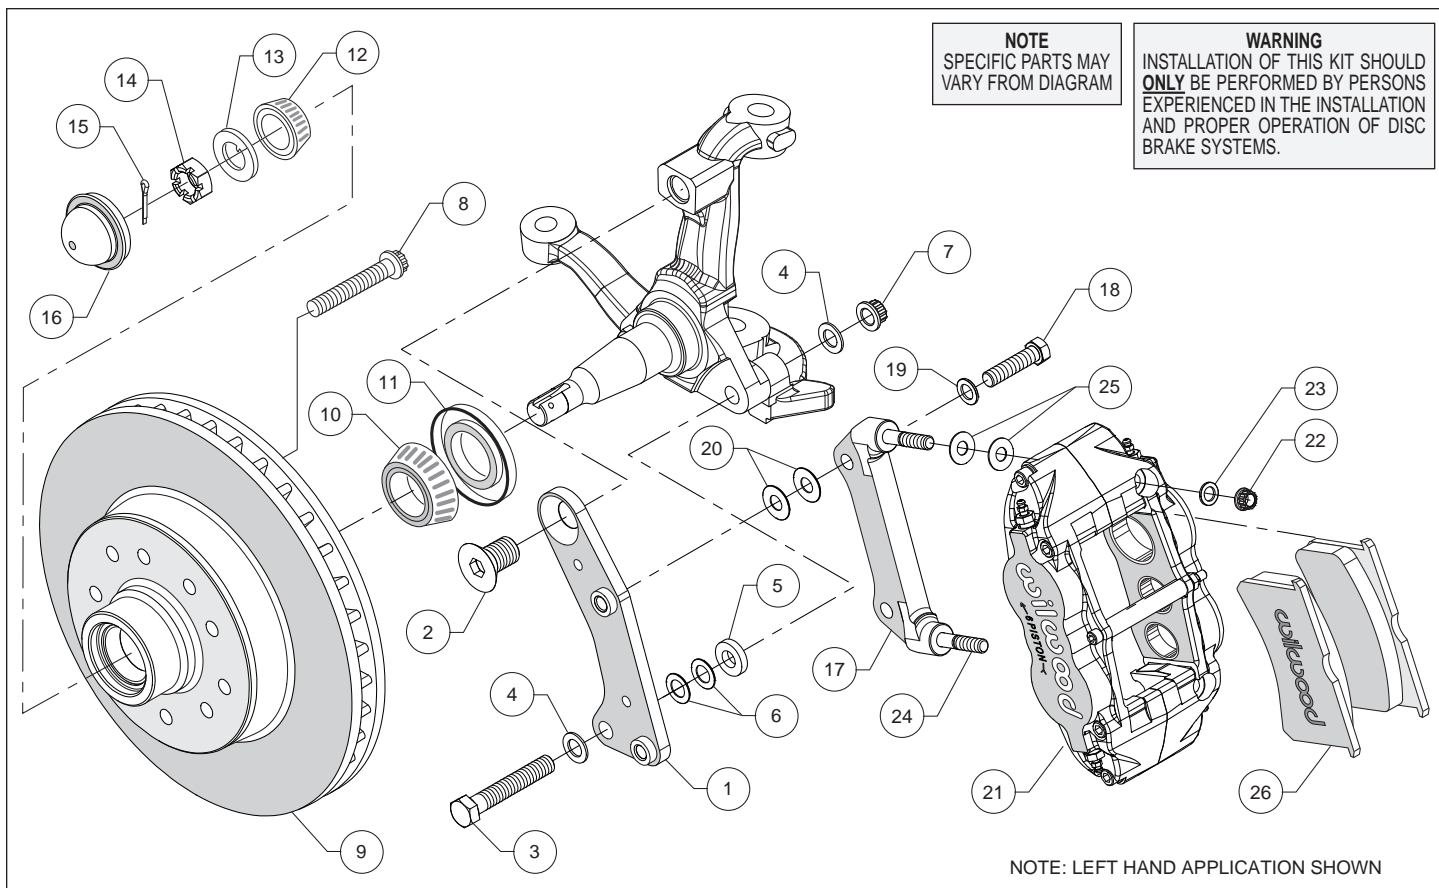
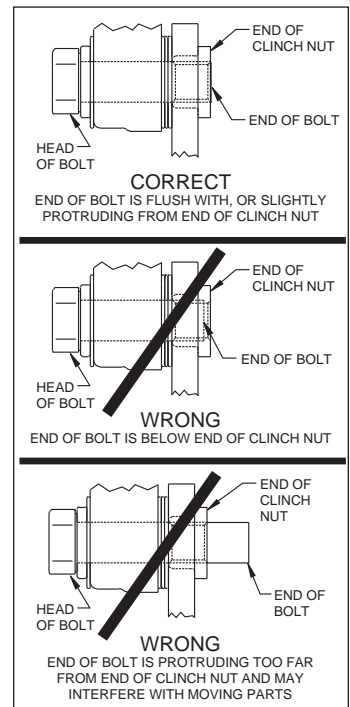

Figure 1. Typical Installation Configuration
Figure 3. Clinch Nut Engagement Diagram
Assembly Instructions (numbers in parenthesis refer to the parts list and Figure 1 on the preceding pages): **CAUTION:** All mounting bolts must fully engage clinch nuts. Be sure to check that all bolts are either flush or protruding through flanged side of clinch nut after shimming, Figure 3.
- The flat bracket (1) should initially be installed with clean, dry threads on the mounting bolts. Orient the flat bracket as shown in Figure 1 and Photo 1, and install using bolts (2 and 3), nuts (7), washers (4) and spacer (5), Figure 1. Initially place two .032" thick shims (6) on the lower bolt between the bracket and spacer, Figure 1. Ensure that the flanged heads of the clinch nuts in the bracket are facing outboard, Photo 1. Temporarily tighten the mounting bolts. **NOTE:** The bracket must fit squarely against the mounting points on the spindle. Inspect for interference from casting irregularities, machining ridges, burrs, etc. Later, after the bracket alignment has been checked, the upper bolt will be secured using red *Loctite*® 271.
- Temporarily install the hub/rotor (9) onto the spindle using outer bearing (12), spindle washer (13), and spindle nut (14). Check that the caliper mounting bracket (1) is aligned parallel to the rotor, Photo 5. If not, adjust by adding or subtracting shims (6) on the lower bolt between spacer and bracket, Figure 1. Once the bracket alignment is correct, remove the upper bolt (2), apply red *Loctite*® 271 to the threads and torque to 150 ft-lbs. Torque nut (7) to 65 ft-lbs.
- Remove hub/rotor and pack the small outer bearing cone (12) with high temperature disc brake bearing grease and final install into the front side of the hub (9), Photo 6. Slide the hub/rotor onto the spindle. Secure using spindle washer (13), and spindle nut (14), Photo 7. Adjust bearing per OEM specifications. Install a new cotter pin (15).
- Press the dust cap (16) into the hub/rotor (9), Photo 8. always apply pressure to the flange of the dust cap, not the center.
- NOTE:** Please reference the caution statement at the beginning of the assembly instructions. The caliper mount bracket (17) should initially be installed with clean, dry threads on the mounting bolts. Orient the bracket as shown in Figure 1 and Photo 9 and install using mount bolts (18) and washers (19). Initially place two .030" thick shims (20) on each bolt between the caliper bracket (17) and spindle bracket (1), Figure 1. Temporarily tighten the mounting bolts. Later, after the caliper alignment has been checked, the mount bolts will be secured using red *Loctite*® 271.
• **NOTE:** This kit contains distinct right and left hand calipers that must be mounted in a specific direction, as described below. Lubricate the caliper mounting studs (24) with lightweight oil. Initially place two .035" thick shims (25) on each stud between the caliper and the bracket, as shown in Figure 1 and Photo 10. Mount the caliper (21) onto the bracket (17) using lock nuts (22) and washers (23), Figure 1. Ensure that the caliper is mounted so that the largest pistons are at the rotor exit end of the caliper, in relation to the direction of rotor rotation. Temporarily tighten the lock nuts and view the rotor through the top opening of the caliper. The rotor should be centered in the caliper, Photo 11. If not, adjust by adding or subtracting shims (20) between the caliper bracket and the spindle bracket. Always use the same amount of shims on each of the two mounting bolts. **NOTE:** The end of each bolt must be flush with or slightly protruding from the head of the clinch nut, as shown in Figure 3. If necessary place spare shims between washer (19) and caliper mounting bracket (17) to achieve the proper clinch nut engagement. Once the caliper alignment and clinch nut engagement are correct, remove the bolts one at a time, apply red *Loctite*® 271 to the threads, and torque to 60 ft-lb.
• Remove the caliper center bridge pad retainer bolt, nut, and tube from the caliper. Insert the brake pads (26) into the caliper, with the friction material facing the rotor, as shown in Photo 12. Check that the top of the brake pad is flush with the outside diameter of the rotor, Photo 13. If not, adjust by adding or subtracting shims (25) between the caliper and the bracket. After the caliper pad height is set, torque the caliper lock nuts (22) to 30 ft-lb. Secure the brake pads in place with the center bridge pad retainer tube, bolt, and locknut, Photo 14. The locknut should be snug without play in the bolt or tube. Be cautious not to over tighten.